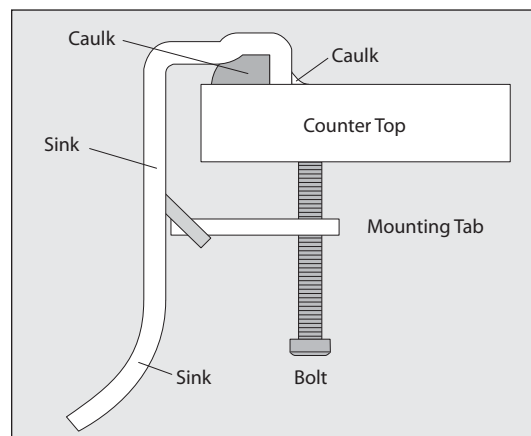

FIGURE 3. Attach sink to countertop as shown.
- + Remove sink and tape. Use a good grade of silicone caulk and apply a bead under the lip of the sink (only where the sink will attach to the countertop. It is not necessary on the apron). (Fig. 3)
- + Attach the sink to the countertop with the bolts and clips provided (Fig. 3). Hand tighten bolts with 3 rotations only.
- + To complete installation, apply a bead of color matched or clear silicone caulk around the edge of the sink. (Fig. 3). Applying caulk between the sink apron and cabinet is optional.